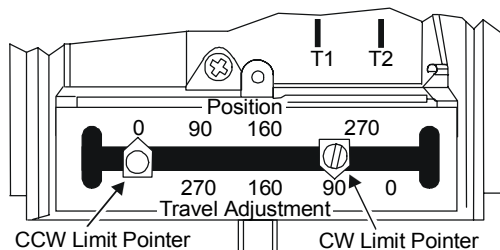

Figure 5: Travel Adjustment
The limit pointers shown in Figure 5 move together for CW or CCW actuator rotation, and indicate the amount of travel in degrees.
2. Using the Travel Adjustment (bottom) scale, move the pointer to the desired actuator rotation. Moving the pointer to the left increases the amount of actuator travel. (See Figure 5.)